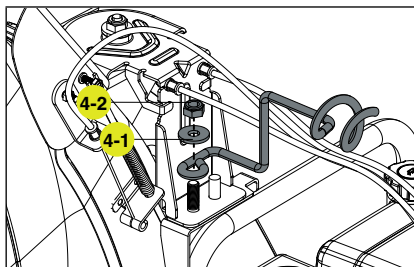

Figure 4
4. Put the snow discharge chute cable wire form on the snow discharge support using the washer (4-1) and nut (4-2). Securely tighten the assembly (Fig. 4) using included tool or your own 16mm wrench. This will be the guide that channels all the cables over the engine from the chute area.